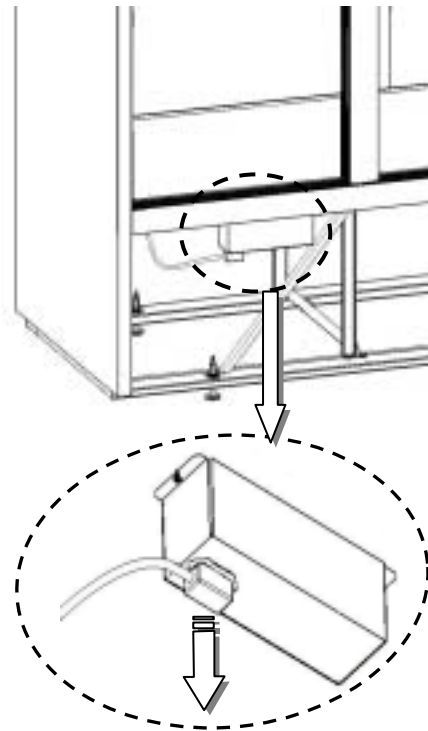

FIGURE 3 – DISCONNECT SERVICE CORD
3. Unplug the power supply cord located at the bottom of the cabinet. (See Figure 3)